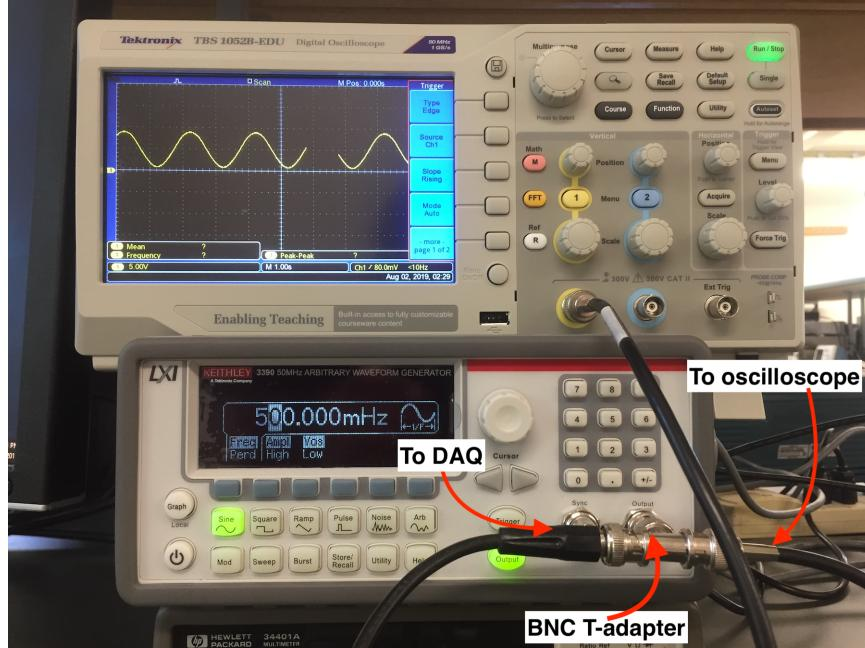

Figure 4: Figure showing connection for acquiring dynamic signal.
3. Connect the output of the function generator to the NI My-DAQ and the oscilloscope. You will need the BNC T-Adapter (T connector located in the resistor kit). See figure 4 .